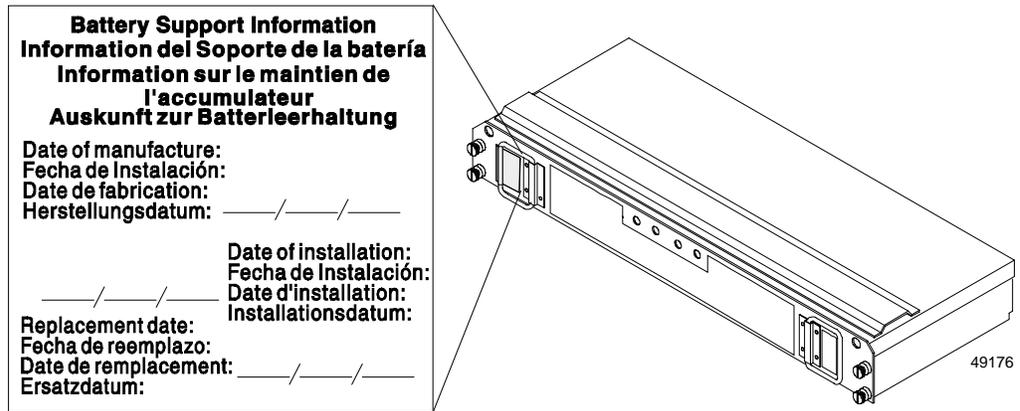

Figure 3-7 Checking the Battery Service Date
2. Check the “Battery Support Information” label (Figure 3-7).